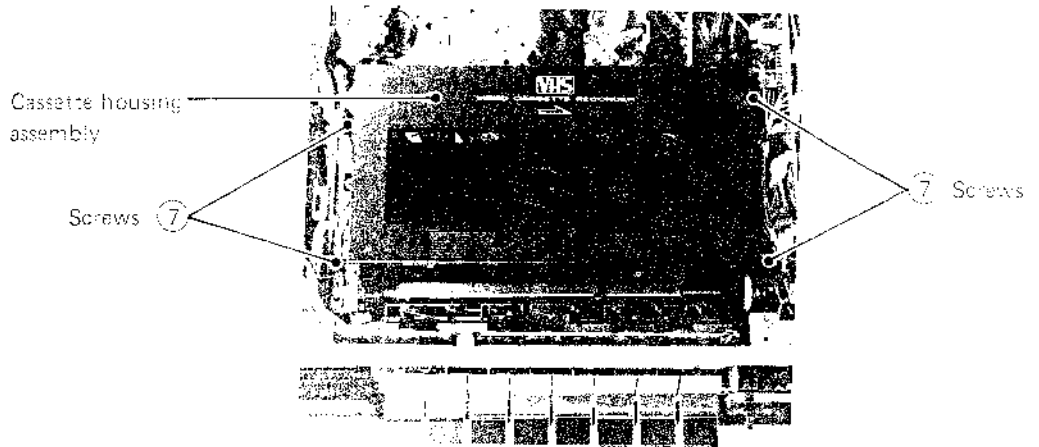

Fig. 3-8
6. Take out 4 screws (7) shown in Fig. 3-8 and remove the cassette housing assembly. Use care not to damage or disengage the counter belt.